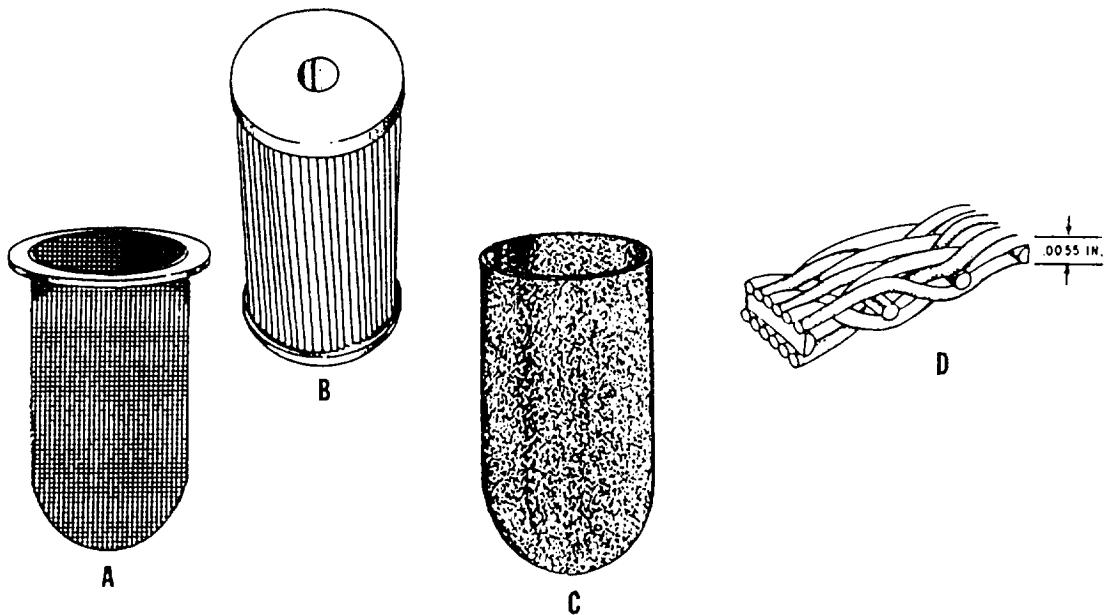

Figure 10-29.—Some typical types of hydraulic screens and filters.
container or component (view (A) of fig. 10-29). The size of wire mesh openings varies with the particular filter element, but normally a wire mesh filter element removes only the larger particles of contamination from the fluid.
MICRONIC FILTER.— *Micronic*, a term derived from the word *micron*, can be used to describe any filter element. Through usage, micronic has become associated with a specific filter with a filtering element made of a specially treated cellulose paper. The paper is formed in vertical convolutions (wrinkles) and is made in a cylindrical pattern. A spring in the hollow core of the element holds the element in shape (view (B) of fig. 10-29).
Sintered Bronze Filter.— The sintered bronze element consists of minute bronze balls joined together as one solid piece while still remaining porous (view(C) of fig. 10-29).
construction to the sintered bronze element described previously. The design is usually a corrugated, sintered, stainless steel mesh, such as the magnified cross section shown in view (D) of figure 10-29. One manufacturer calls the design a “Dutch Twill” pattern. The curved passages of the filter element (through which the fluid passes) limit the length of the particles that pass through the element. Most filters that use the stainless steel are equipped with a contamination indicator, described later in this chapter.